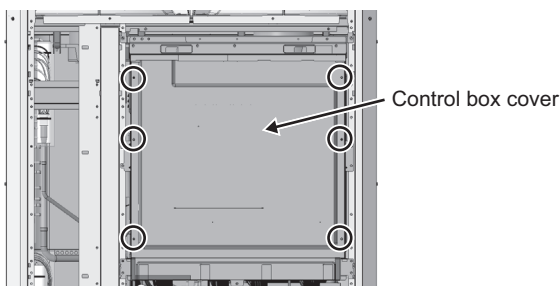

Fig. 55
(2) Remove the control box cover and remove the wiring connected to the unit from the control box. (Six screws: Fig. 55)